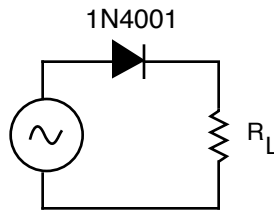

Fig 2.1
a) Construct the circuit of Fig 2.1. Display the I-V characteristic of the diode on the oscilloscope. Use dc coupling and set zero volts at the centre of the screen. Explain the I-V curve.
Substitute a Zener diode ($1N4733$) for the ordinary diode in Fig 2.1. Display the I-V characteristic of the Zener diode and explain.